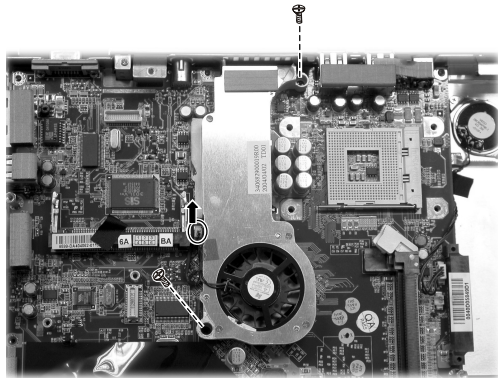

Figure 2-26 Free the heatsink
2. Disconnect the heatsink's cable from the system board and remove two screws fastening the heatsink. (Figure 2-26)